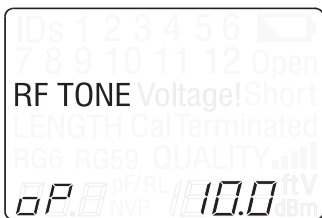

Figure 11. RF Tone Test with 10.0 MHz Frequency and Coax Pin Selected
- The tone path: coax pin (P), coax shield (S), or both coax pin and shield (PS).
3. Set the unit to RF TONE by pressing the UP and DOWN buttons until the LCD display screen updates with the RF TONE icon (see Figure 11).